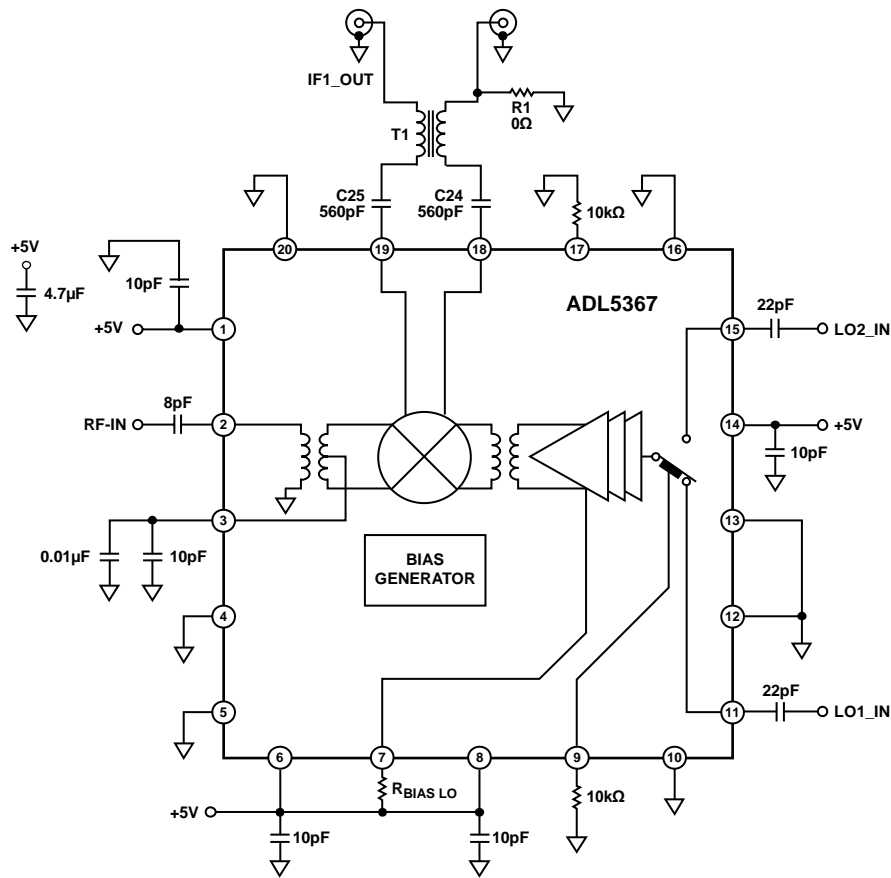

Figure 48. Typical Application Circuit
The ADL5367 mixer is designed to upconvert or downconvert between radio frequencies (RF) from 500 MHz to 1700 MHz and intermediate frequencies (IF) from dc to 450 MHz. Figure 48 depicts the basic connections of the mixer. It is recommended to ac-couple the RF and LO input ports to prevent nonzero dc voltages from damaging the RF balun or LO input circuit. The RFIN capacitor value of 8 pF is recommended to provide the optimized RF input return loss for the desired frequency band.